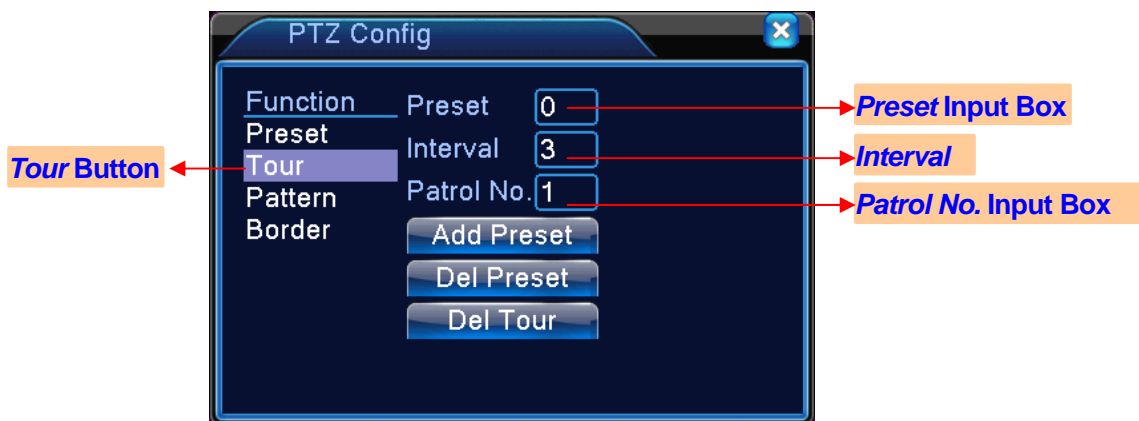

Figure 3.10 Tour Set
**Step 1:** In Figure 3.7, use the direction key to turn the PTZ to the preset position, and click **[Set]** to enter Figure 3.10.